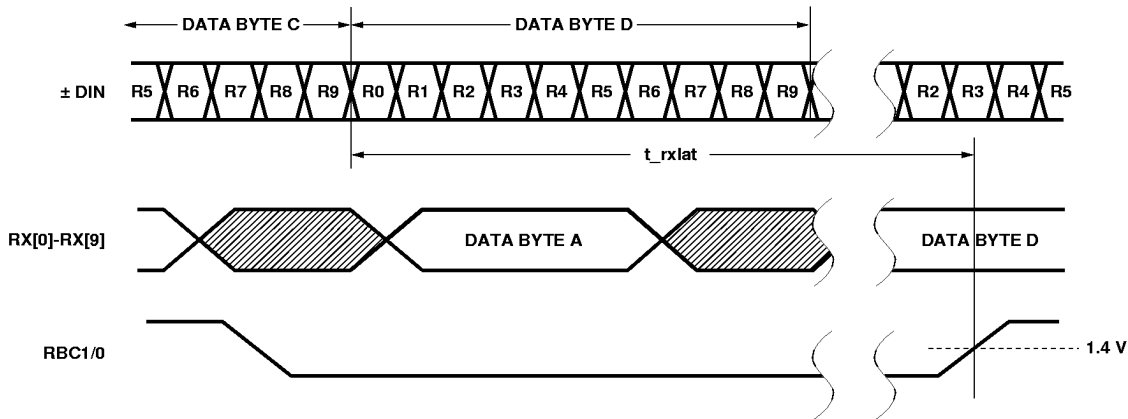

Figure 6. Receiver Latency.
5. The receiver latency, as shown in Figure 6, is defined as the time between receiving the first serial bit of a parallel data word (defined as the first edge of the first serial bit) and the clocking out of that parallel word (defined by the rising edge of the receive byte clock, either RBC1 or RBC0).